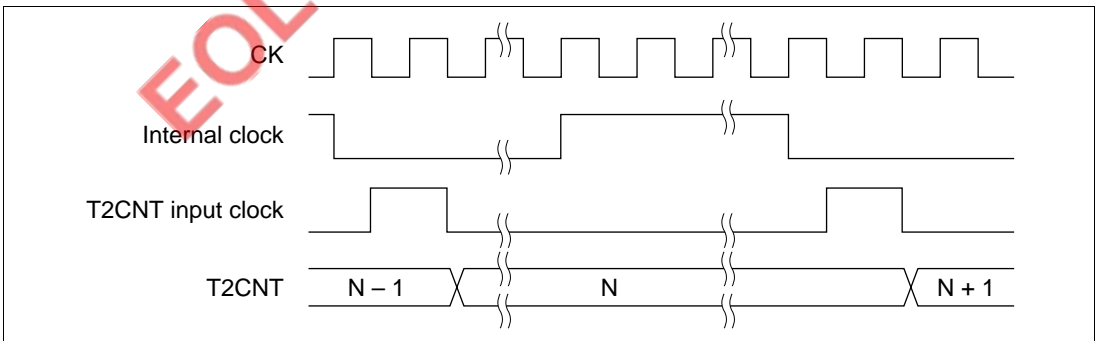

Figure 9.3 Count Timing
Any of seven internal clocks ($\phi/2$, $\phi/8$, $\phi/32$, $\phi/128$, $\phi/512$, $\phi/2048$, or $\phi/4096$) divided from the system clock (CK) can be selected with bits CKS2 to CKS0 in T2CSR. The count timing is shown in figure 9.3.